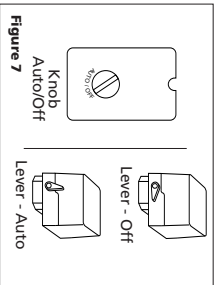

Figure 7
4. Turn pressure switch lever or knob to **AUTO** position and run unit for 30 minutes to break in the pump parts (See Figure 7).